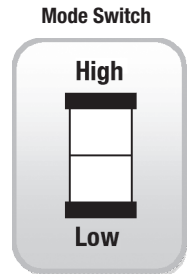

Figure 5
2. To install the remote Mode Switch (Figure 5), connect one pole of the switch to the High/Low wire (green) and the other pole to ground.
To begin operation simply set the switch to the '**ON**' position (Figure 7), set the Mode switch (Figure 5) to the HIGH position, **AND** open the **HOT WATER** faucet you want to use. The unit will automatically light and start heating your water. **DO NOT** use cold water to adjust the temperature.